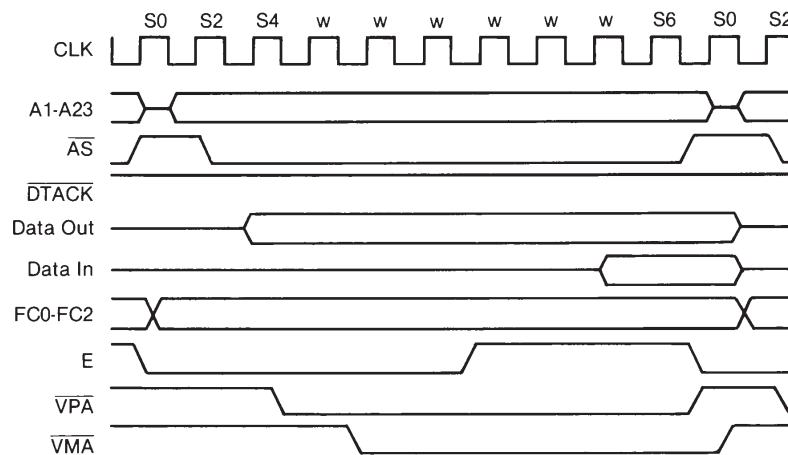

Figure 16 : TS 68C000 to EF 6800 peripheral timing - best case.
EF 6800 cycle timing is given in Figures 16, 17, 19 and 20. At state zero (S0) in the cycle, the address bus is in the high-impedance state. A function code is asserted on the function code output lines. One-half clock later, in state 1, the address bus is released from the high-impedance state.
After recognition of \overline{VPA} , the processor assures that the enable (E) is low, by waiting if necessary, and subsequently asserts \overline{VMA} . Valid memory address is then used as part of the chip select equation of the peripheral. This ensures that the EF 6800 peripherals are selected and deselected at the correct time. The peripheral now runs its cycle during the high portion of the E signal. Figures 16 and 17 depict the best and worst case EF 6800 cycle timing. This cycle length is dependent strictly upon when \overline{VPA} is asserted in relationship to the E clock.